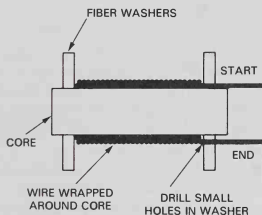

Fig. 18-2. The ends of the coil are inserted in small holes in the fiber washer.
6. When winding coils, always keep the wire tight and wind it close, even coils and layers. A suggested method of starting and ending coils is shown in Fig. 18-2. A small hole is first drilled in the fiber washer near the core. The starting end is put through the hole, and extended enough to provide a connection to the coil. When the coil is wound, the finished end is placed through a second small hole in the washer coil end. This holds the coil firmly in place.